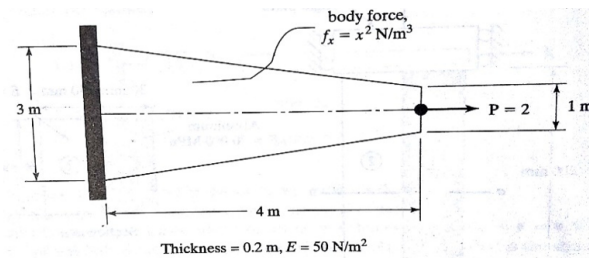

Figure 1
- (b) Solve the given Figure 1 using a finite element solution with two noded elements. Show all work such as element matrices, assembly, boundary conditions, and solution. [7M]